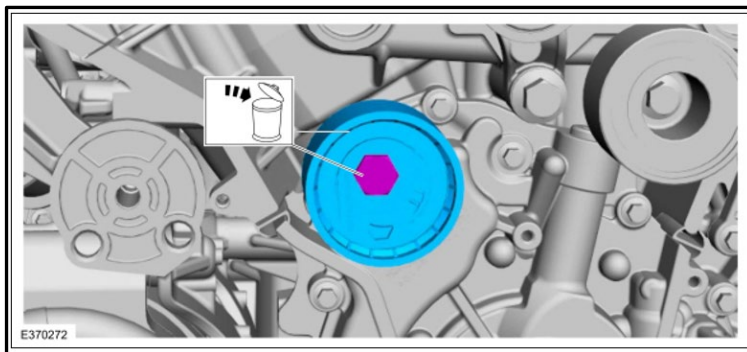

Figure 15
I. Remove the bolt and the timing belt tensioner. Discard the bolt and tensioner. Figure 15.